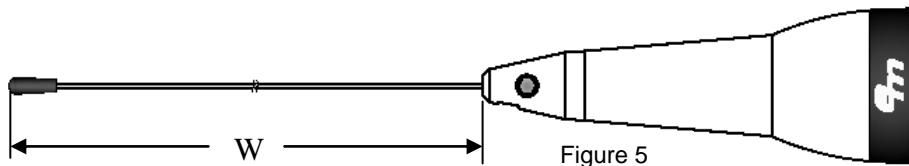

Figure 5
5. Cut the whip length required to establish the specified Tuned Length "W" as shown in **Figure 5.**